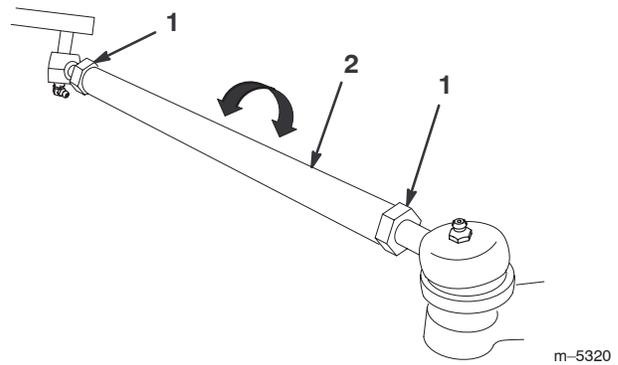

Figure 37
3. If the measurement does not fall within the specified range (refer to the dimensions and parameters at the beginning of this procedure), loosen the jam nuts at both ends of the tie rods (Fig. 37).